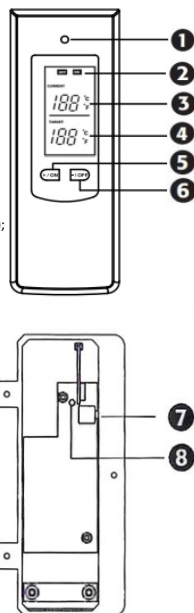

Fig. 3. Schematic image of the UDEN-VS remote control.
7.3.2 After connecting the control board to the electrical network, press and hold button 7 (see **Fig. 3**) (on/off button) for 3 seconds – the red LED indicator 8 (see **Fig. 3**) on the control board will start flashing, indicating
7.3.3 Within a maximum of 2 minutes, press button **5** or **6** on the remote control (see **Fig. 3**) and wait for 1 second. The green indicator on the remote will flash once and the remote will send its code to the control board. When the red indicator stops flashing, it means that the control board has switched from the "binding" mode to the working one. Now the control board will execute the commands of only the remote control to which it is "bound".